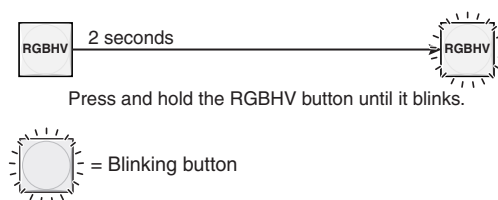

Figure 3-35 — Select RGB Delay mode
2. Press and **hold** the RGBHV button for approximately 2 seconds (figure 3-35).